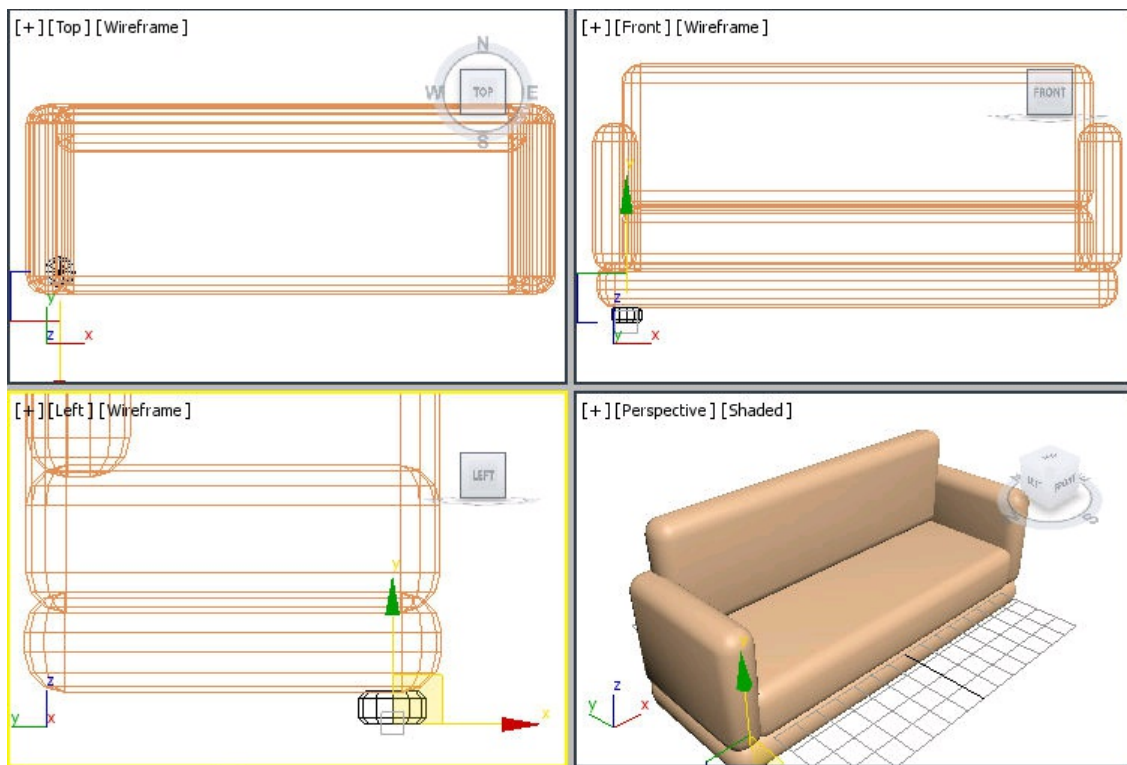

Figure 3-25 The *support1* geometry aligned in the viewports
6. In the **Name and Color** rollout, enter **support1** and press the ENTER key. Assign black color to it. Next, align it at the bottom left corner of *base*, as shown in Figure 3-25.